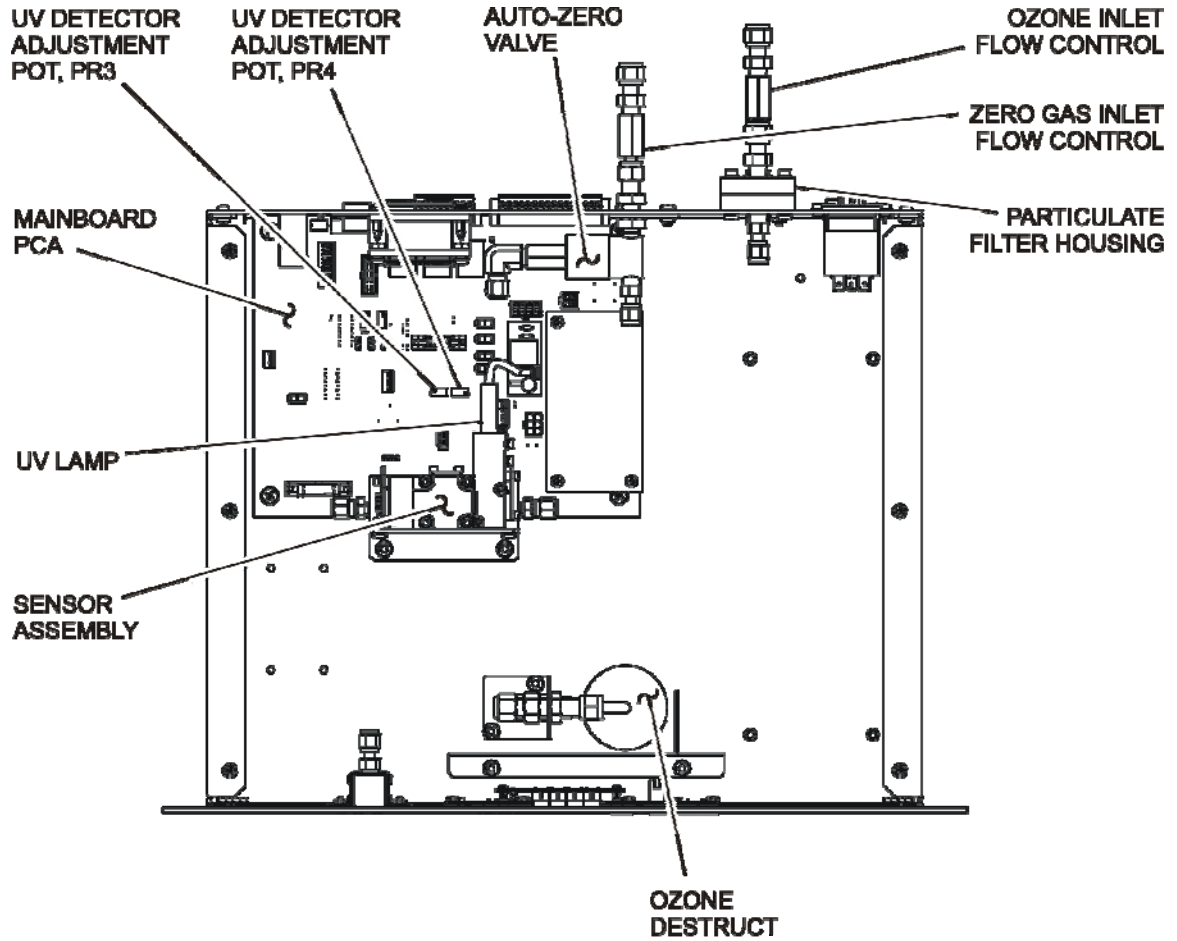
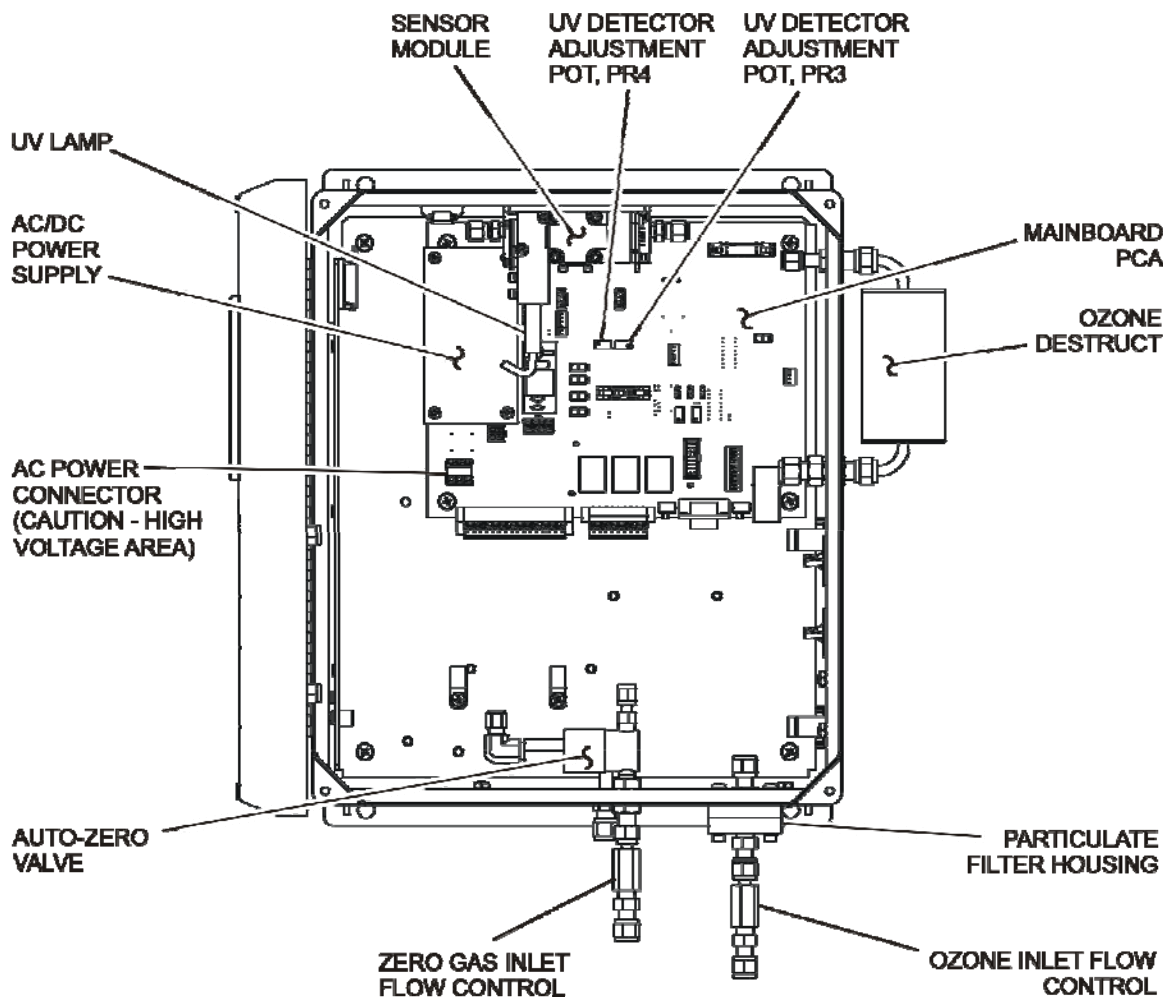

Figure 9-1: Instrument Layout, Rack Mount Configuration
Figure 9-2: Instrument Layout, NEMA Configuration
Figure 9-2 show the instrument layout of the 465H. These figures will be referenced in the procedures that follow.
2. Loosen the six screws from the top cover (Rack Mount Configuration, see Figure 9-1) or open front panel (NEMA Configuration, see Figure 9-2.)
4. Locate the particulate housing filter on the rear panel (Rack Mount Configuration, see Figure 9-1) or the bottom panel (NEMA Configuration, see Figure 9-2.)
3. Locate the Reference UV Detector adjustment pot, PR3, on the Mainboard PCA (see Figure 9-1 or Figure 9-2.)
6. Locate the Measure UV Detector adjustment pot, PR4, on the mainboard PCA (see Figure 9-1 or Figure 9-2.)
9. If the required adjustment cannot be achieved by adjusting the UV Detector pot alone, then additional adjustment can be made by loosening the two UV lamp setscrews on the UV lamp housing (see Figure 9-1 or Figure 9-2) and rotating the lamp. Rotate the lamp very slowly while observing the REF or MEAS value on the display. Make sure the lamp does not pull out and remains seated in the housing while it is being rotated. Re-tighten the two setscrews when a desired point has been reached.
3. Loosen the two UV lamp setscrews on the UV lamp housing (see Figure 9-1 or Figure 9-2.)
3. Locate the auto-zero valve (See Figure 9-1 or Figure 9-2.)
3. Locate the Mainboard PCA (see Figure 9-1 or Figure 9-2).